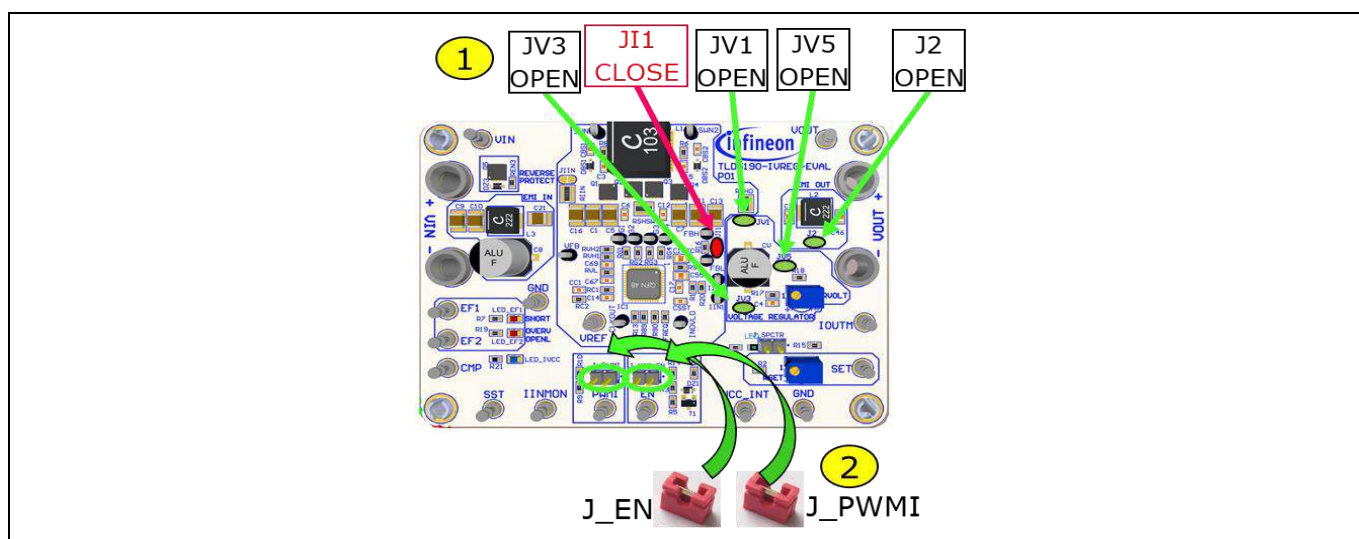

Figure 4 Connect loads and set jumpers
1. Configure solder jumper for LED driver configuration: Figure 4